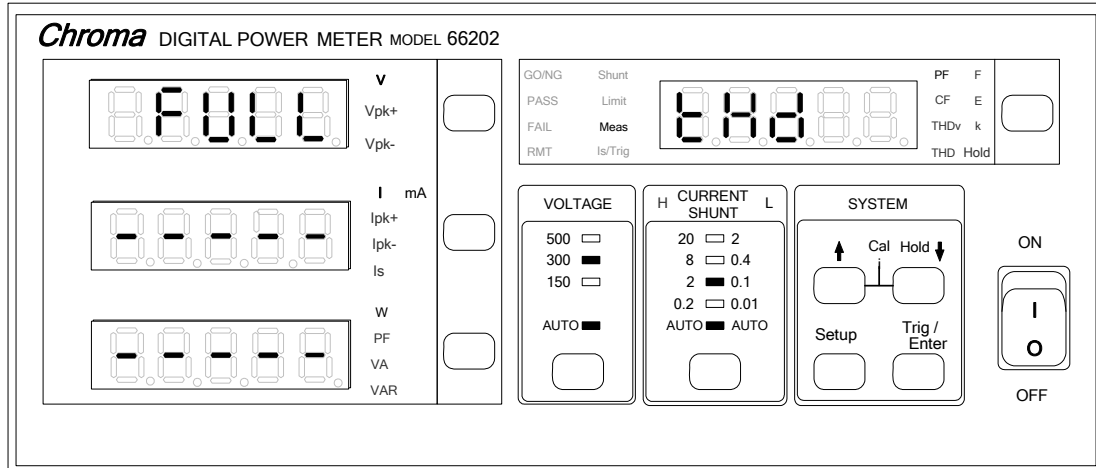

Figure 4-23 Setting THD Parameters
1. Press **Setup** to select Meas and the indicator of Meas is on. Figure 4-23 shows the setting of THD.